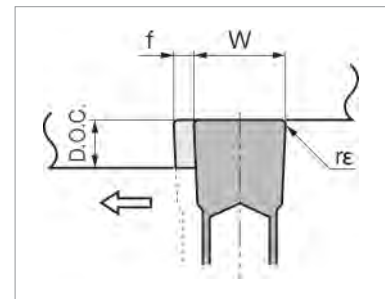

Fig.1
- Grooving Depths Over 0.020" : At Roughing (Fig.1)